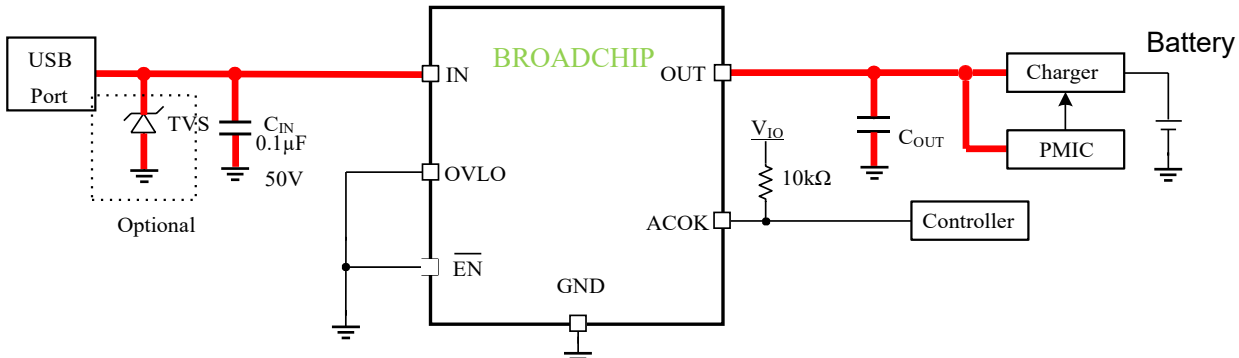

Figure 4 BCT7925 typical application circuit(using default OVP threshold)
3. Red bold paths on figure 4 and 5 are power lines that will flow large current, please route them on PCB as straight, wide and short as possible.